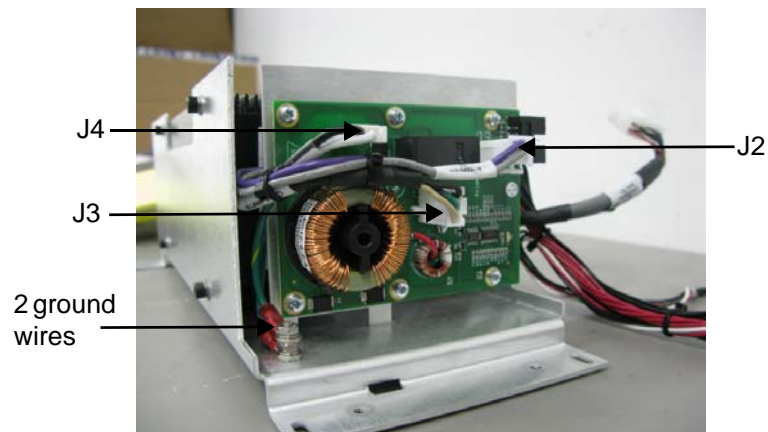

Figure 142 Power Supply Unit (Front View)
22. Reconnect the following at the front of the power supply (see Figure 142):